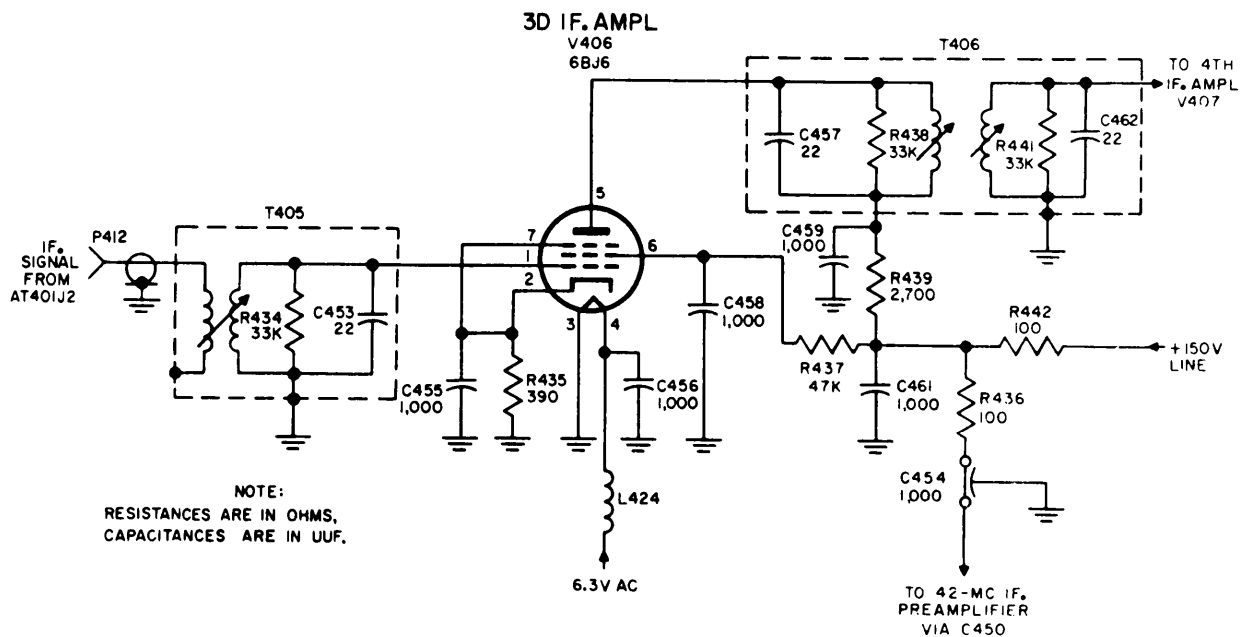

Figure 31. Tuning unit 3, third if. amplifier V406, schematic diagram.
(fig. 31 and 32)
a. *Interstage Transformers T405* (fig. 31). The attenuated if. signal at connector AT401J2 on the if. step attenuator is conducted through connector plug P412 and a length of coaxial cable, to the primary winding of interstage transformer T405. The primary winding has a 50-ohm impedance. The secondary winding and shunt capacitor C453 resonate together at the intermediate frequency, with R434 functioning as a load resistor. The transformer T405 secondary is connected to the grid of third if. amplifier V406.
- (1) Cathode bias is developed by the voltage drop across R435 in the third if. amplifier (fig. 31). Cap-